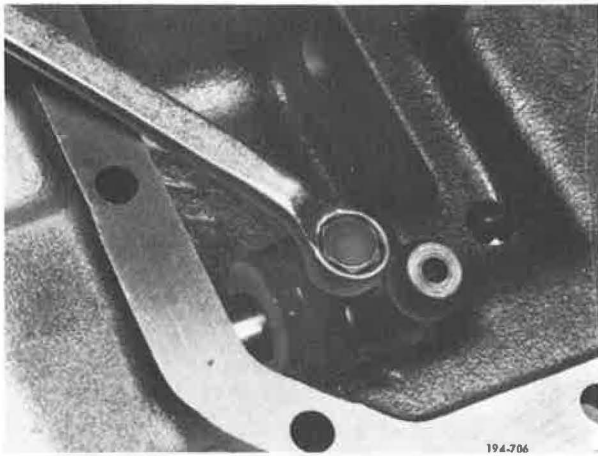

Figure 5-431. Installing Setscrew
6. Install Lo/Direct shifter setscrew, and tighten to recommended torque. Refer to Torque and Tolerance Table, Item 8. See Figure 5-431.